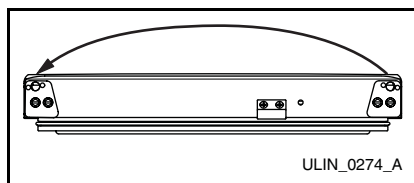

Figure 22
- With bottom of door facing up, remove pivot plate (two screws), flip over, and remount on opposite side of door (**Figure 22**). **Be sure slanted side of plate faces center.**